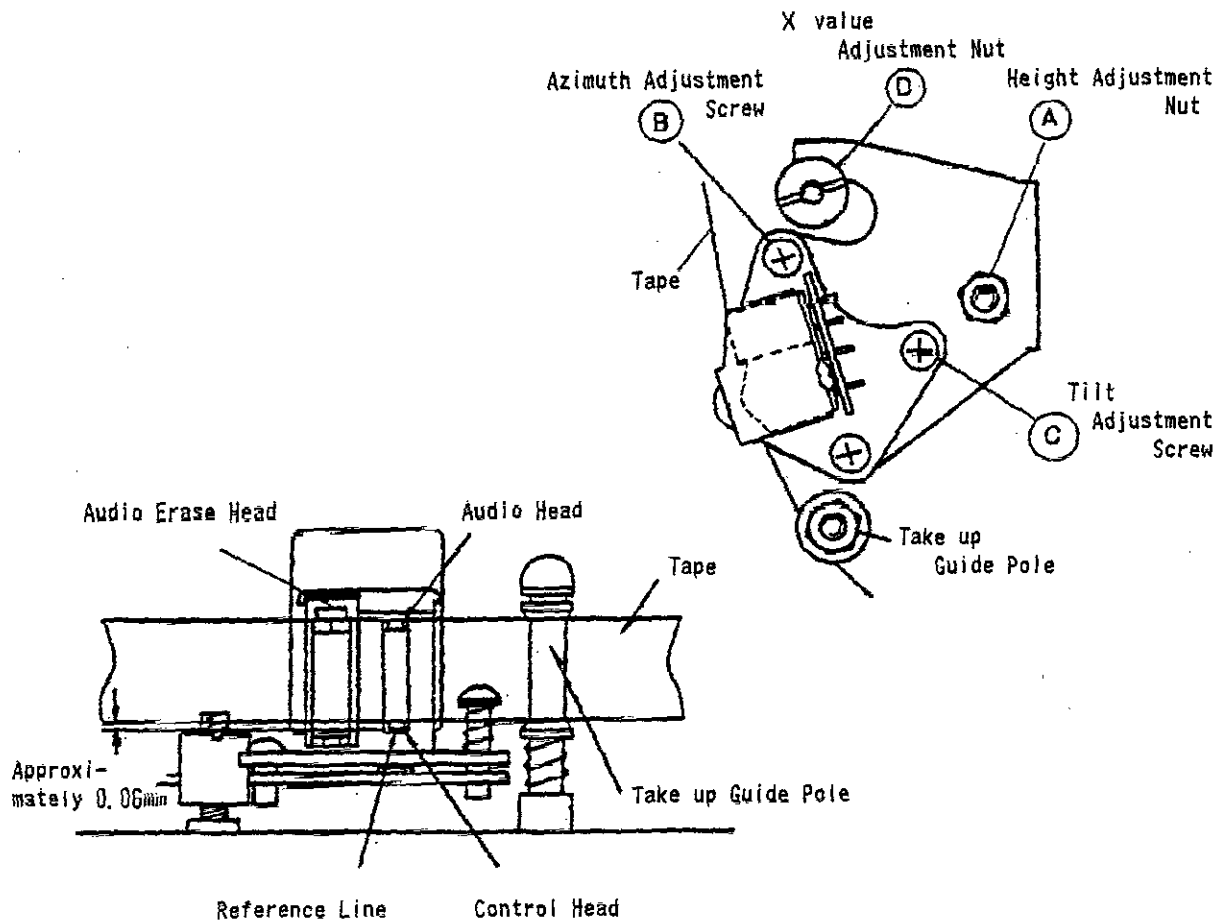

Fig. 5-7
2. Adjust the height of the edge of the audio track on the audio control head by using the height adjustment nut (A) and the tilt adjustment screw (C) so that the tape transport is smooth at the take-up guide pole. Align the audio control head height. (Refer to Fig. 5-7).
2. Confirm that the tape running between the take-up guide roller and the audio control erase head has no slack. If the tape has slack, take it up by turning the tilt adjustment screw ©. (Refer to Fig. 5-7.) Then readjust GUIDE ROLLER HEIGHT in section 5-2 and the X value in section 5-4.
3. After confirming on the oscilloscope that a 1 kHz audio signal is being output by playing back F6-A test tape, adjust the height adjustment nut @ so that the AC voltmeter's reading is brought to its maximum level. (Refer to Fig. 5-7.)
1. After confirming on the oscilloscope that an audio signal is being output by playing back F6-N test tape, adjust the azimuth adjustment screw ⑧ so that the AC voltmeter's reading or oscilloscope waveform is brought to its maximum level (Refer to Fig. 5-7).
Note: Fix the screw ⑧ with lock paint after readjustment (Refer to Fig. 5-7).